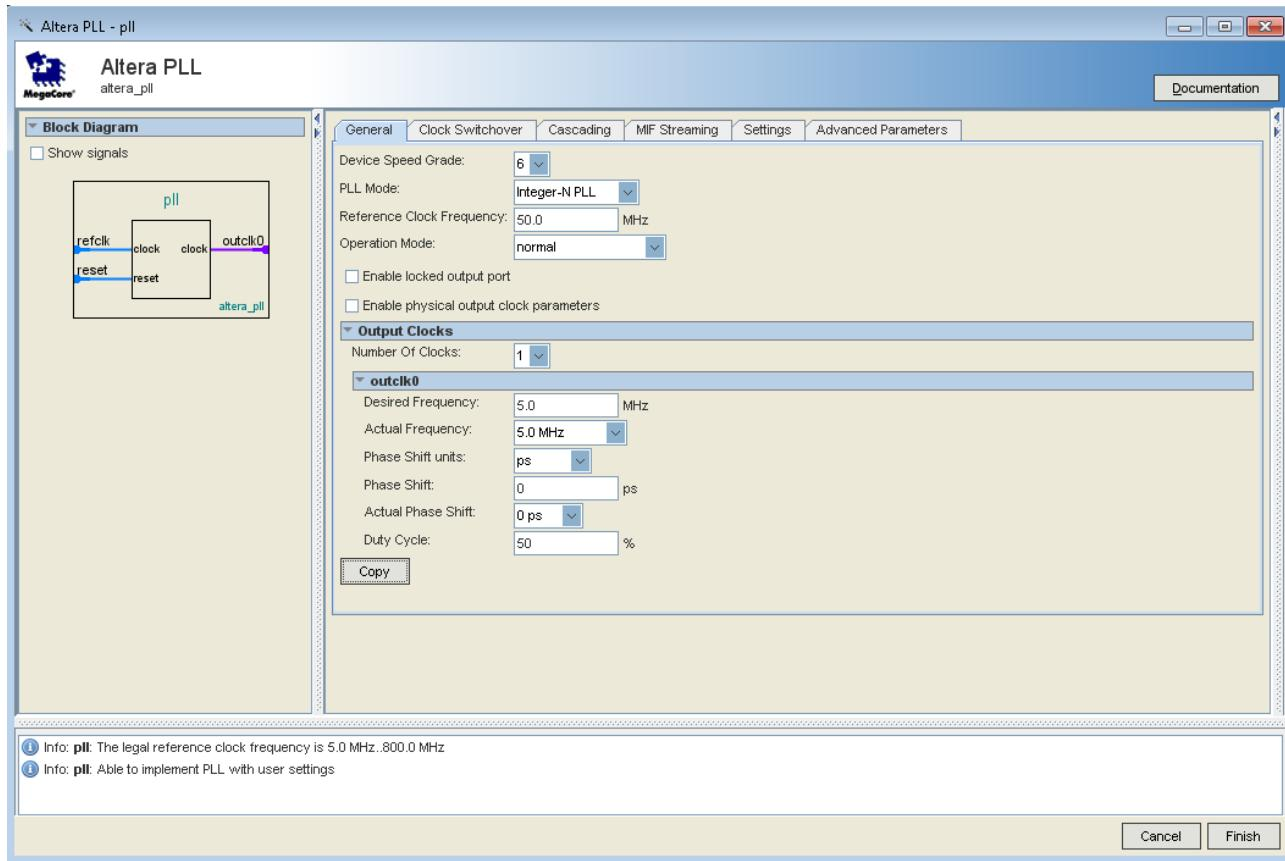

Figure 3-12 Selections of Altera PLL windows
7. Then, make the following selection (see **Figure 3-12**).